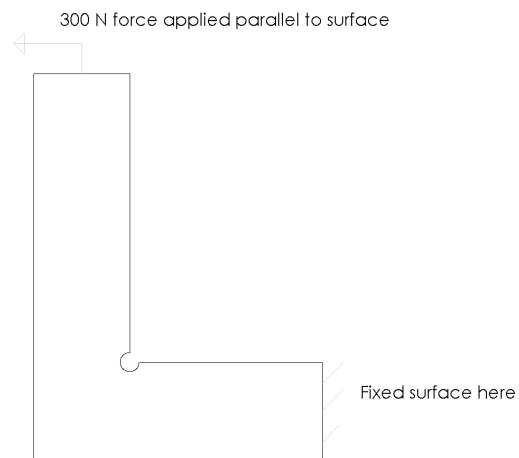

Figure 2 Loading Force
3. Perform a solid mechanics analysis using the boundary conditions defined in Fig 2. Use Aluminum 6061 properties.